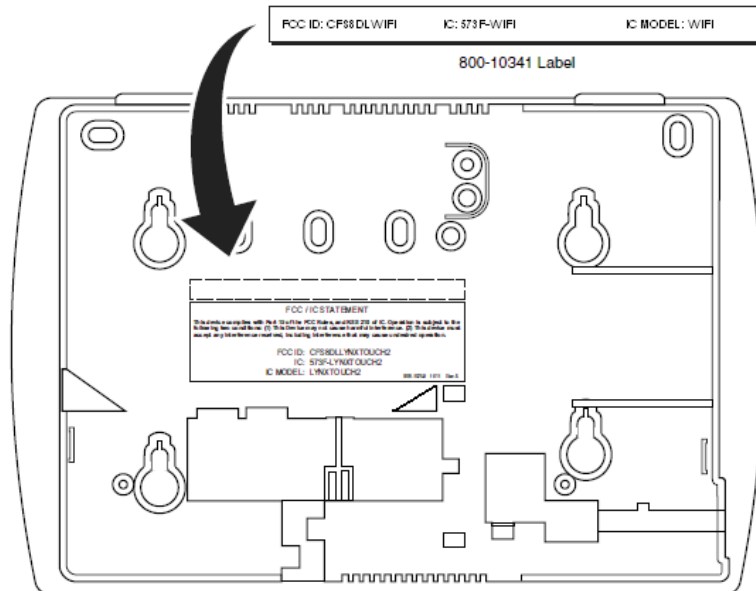

Figure 1. FCC/IC Label Location
1. Install the provided FCC/IC label (P/N 800-10341) on the control's case back (refer to Figure 1).